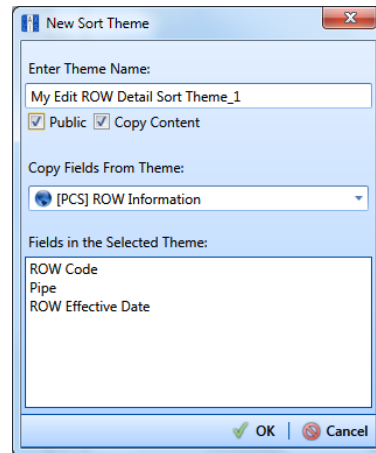

Figure 4-37. New Sort Layout
- 5 Click  **Add** to open the *New Sort Layout* dialog box (Figure 4-37).